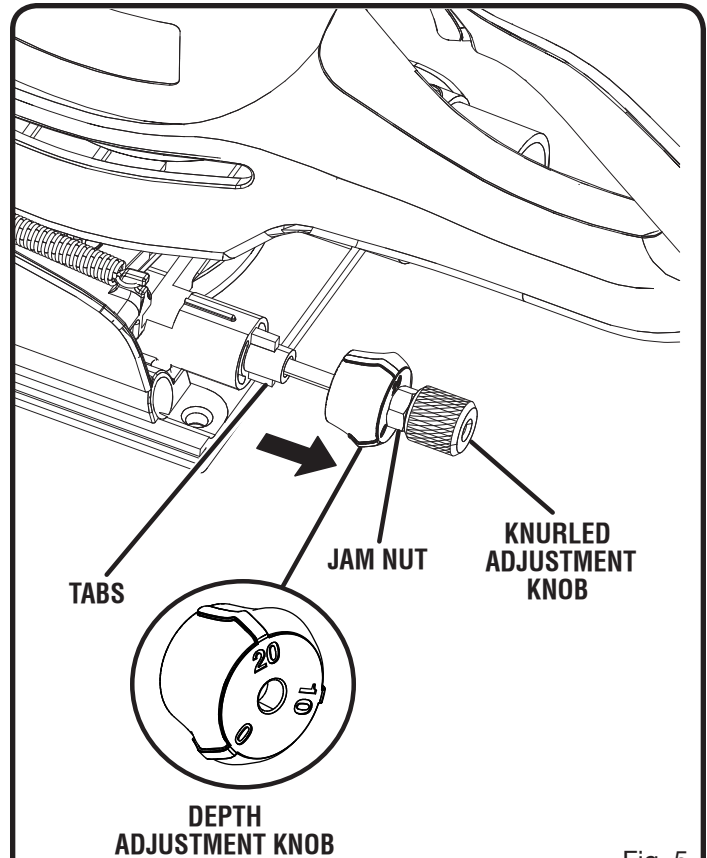

Fig. 5
See Figure 5.
- Select the correct depth of cut setting for the biscuit size you plan to use. To select depth of cut, pull the knurled adjustment knob and jam nut in the direction of the arrow in figure 5.